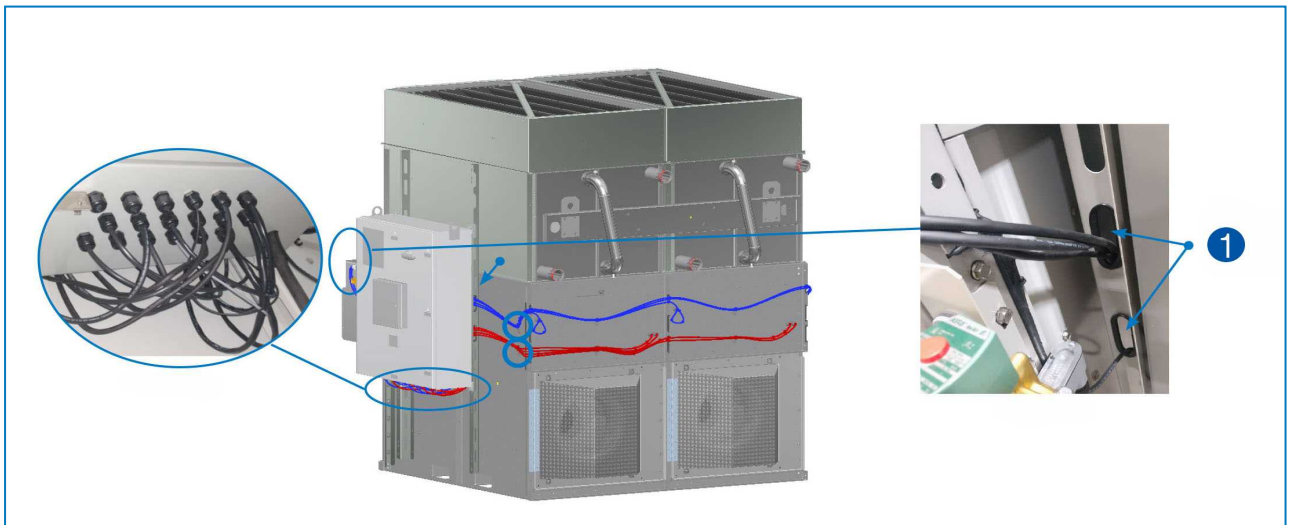

Fig. 17 Wire to the iPilot™ Control System panel - 1. Mounting channel with oblong holes with edge trim.
6. Route the fan power wire through the bottom oblong hole with the edge trim on the control panel mounting channel. Pull each wire through each cord grip at the bottom of the control panel, then connect each connector of wire to the correct terminal block position. See figure 17.
7. Route the fan communications and component wires through the bottom oblong hole with the edge trim on the control panel mounting channel. Pull each wire through each cord grip at the bottom of the control panel, then connect each connector of wire to the correct terminal block position. See figure 17.